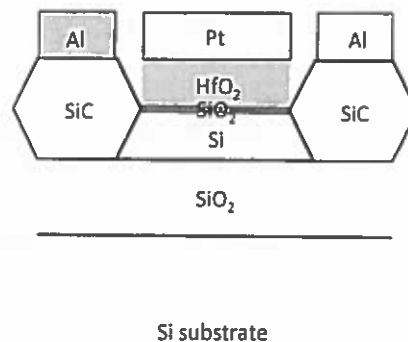

Figure 1.1: Planar MOSFET.
- d) Figure 1.1 gives the material cross section of a planar MOSFET. [4]
Different adaptations are implemented to the MOSFET in Figure 1.1 compared to the classical MOSFET. Identify these adaptations and briefly explain the mechanism that underpins the speed benefit in each case. [8]